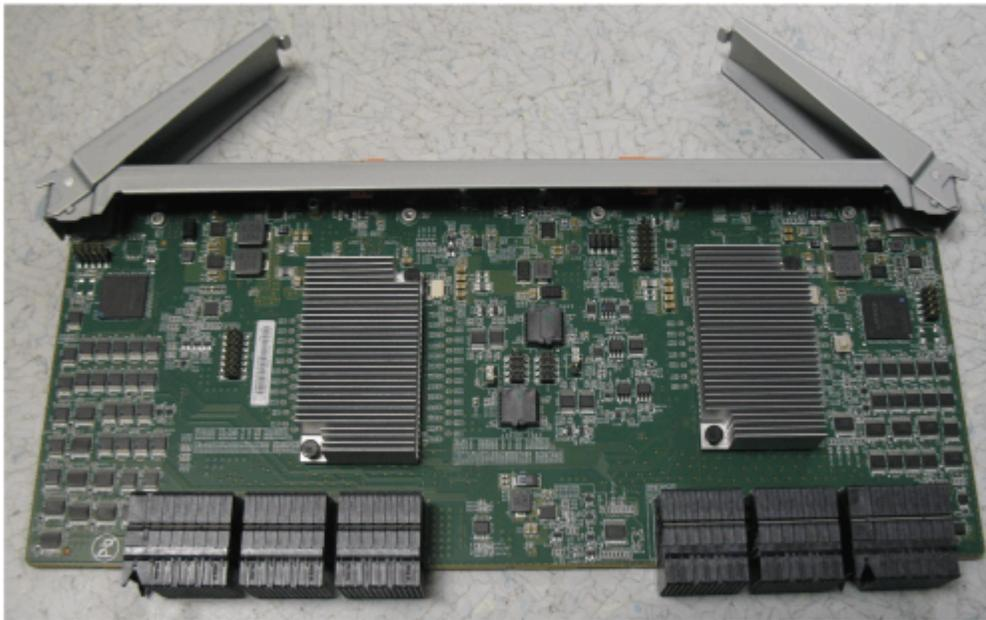

Figure 117. Secondary expander module removed from the enclosure
5. Place the secondary expander module in a safe location, as shown in Figure 117 on page 108.